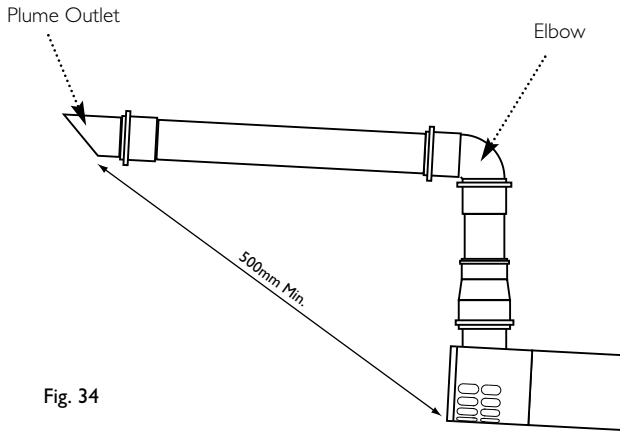
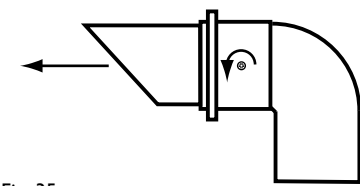

Fig. 34
Fig. 35
16. It is also possible to separate the plume outlet from the 93° elbow to allow the flue to be installed as shown in Fig. 34.
17. To do this, first slacken the two screws retaining the plume outlet to the elbow, and remove the outlet (Fig. 35). The elbow can now be used to connect the vertical to horizontal 60Ø exhaust (Fig. 34). Retighten the screws in the elbow.